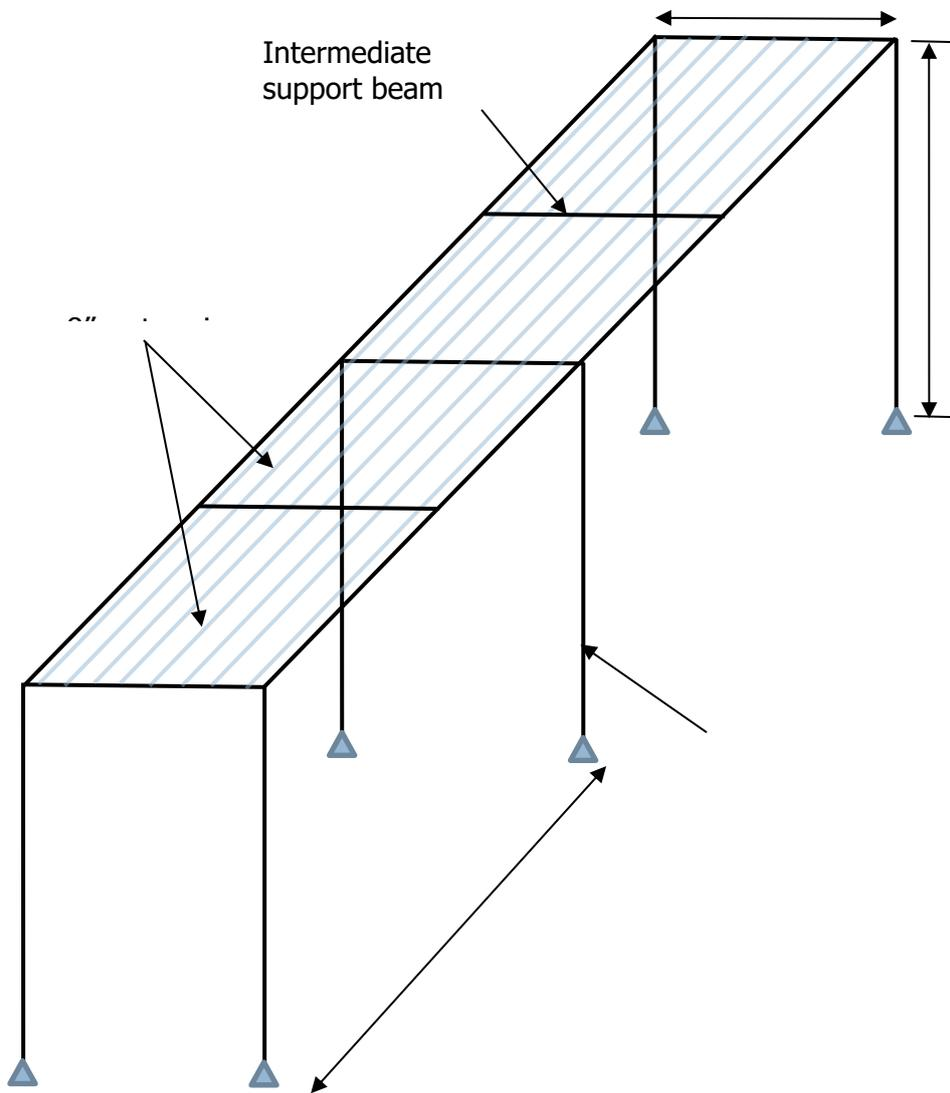

Figure Q1-1
A segment of a long pipe rack system is shown in Figure Q1-1. The main structural system comprises portal frames spaced at 6m centre to centre with intermediate pipe support at 3m centre-to-centre and connected with two tie beams. The structural steel beams that support the eight (8) numbers of 8-inch water pipes are spaced at minimum 150mm edge-to-edge. The 8-inch diameter water pipes have a loading of 1.45kN/m run when the pipe rack system is in operation. The frictional force at frame is 15% of the pipe load and the pipes will be operated under an anchor force of 5 kN/m² at stressed condition at frame only. The maintenance load is 0.75 kN/m².
The arrangement of pipe rack system with dimensions is shown in Figure Q1-1. The section of the pipe supporting beams are UB203×165×36 kg/m and columns UC203×203×60 kg/m of 5m height. The columns are pin connected via baseplates to pile caps. The main pipe supporting beams are welded to the column. The intermediate pipe supporting beams are pin-connected to the tie beams. The specification states that the pipe rack system shall be designed to cater for any configurations in the use of the pipes during operation, testing and maintenance periods. All steel sections are grade 355 N/mm². Steel section properties are provided in Annex.